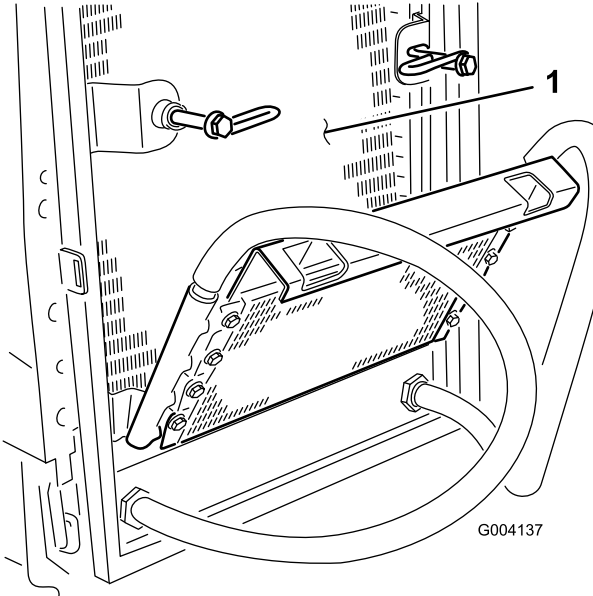

Figure 58
7. Working from the fan side of the radiator, blow out debris with low pressure (50 psi) compressed air (do not use water). Repeat the step from the front of the radiator and again from the fan side. Thoroughly clean both sides of the oil cooler. After the radiator and oil coolers are thoroughly cleaned, clean out any debris that may have collected on other parts of the machine (Figure 58) with compressed air.